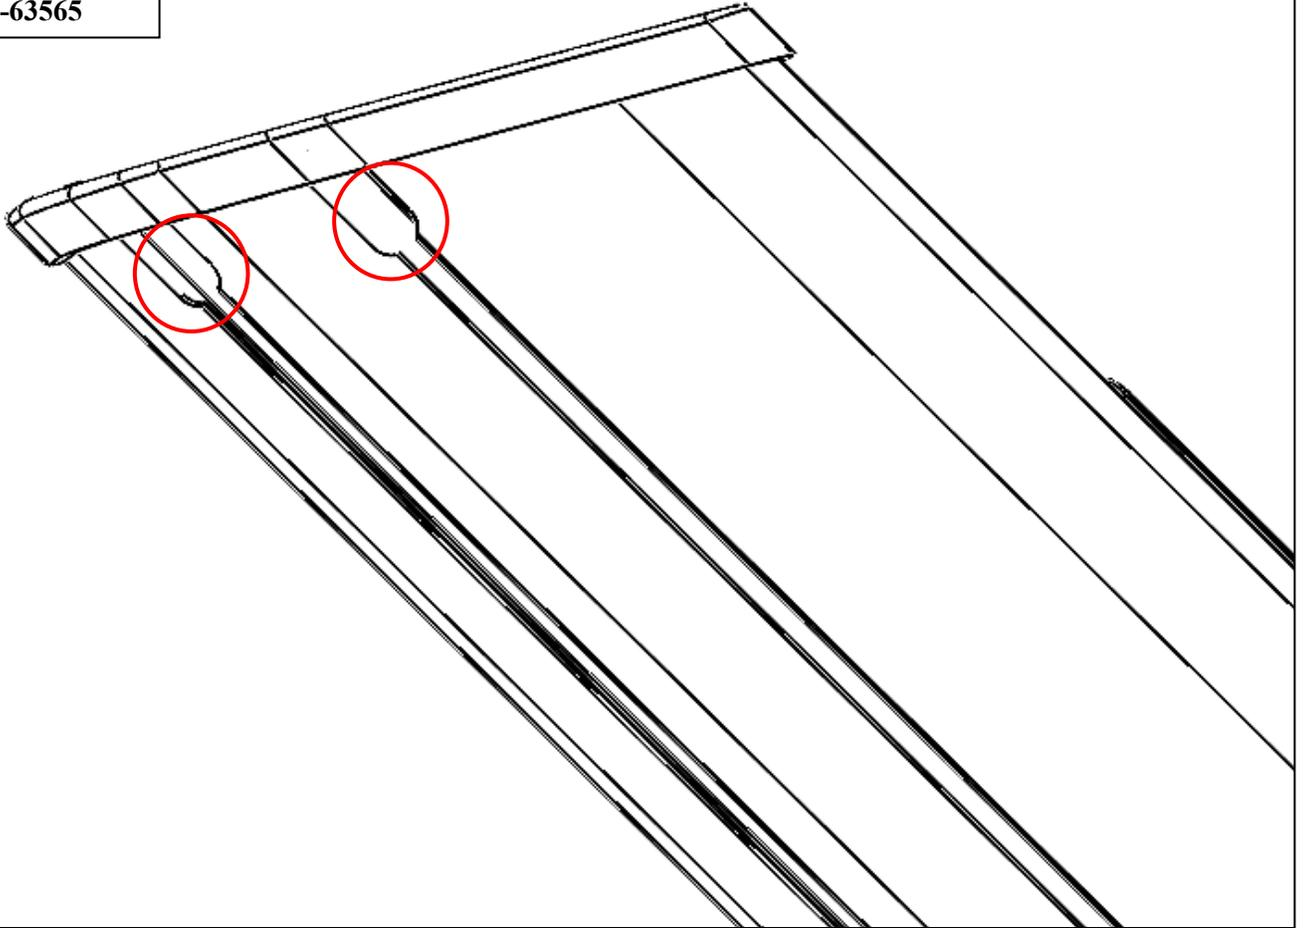

Fig. 12
12. Slide (3) M8 square head screws (Item 11) into each of the rails underneath the running board. See Fig. 12.